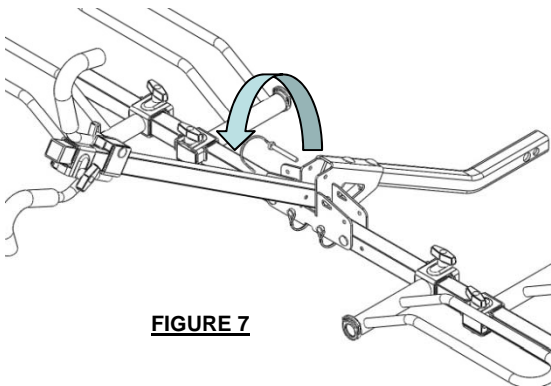

FIGURE 7
1. Load inner bicycle first. Pull bail pin and rotate center tube down as illustrated. (Fig 7)